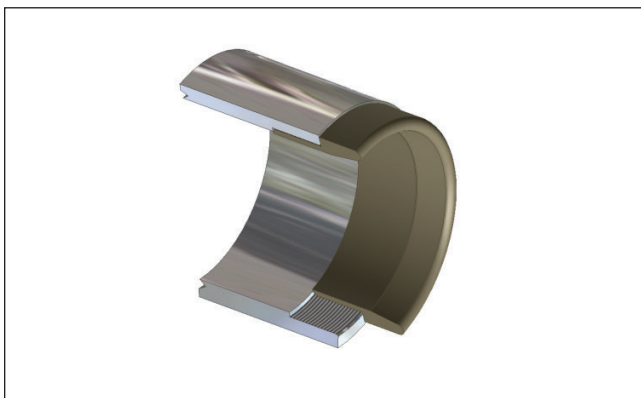

Figure 2-16. Thread protection installation tool cutaway view
- 2. Nick and Cut Protection.** Threads, sharp corners and burrs can damage the seal. Care should be taken to avoid contact with these surfaces. Burrs must be removed, sharp corners should be blunted or radiused, and threads should be masked or shielded with special insertion tooling (see Figure 2-16). Although it is good practice to take extra care in the handling and manipulation of the seal, this